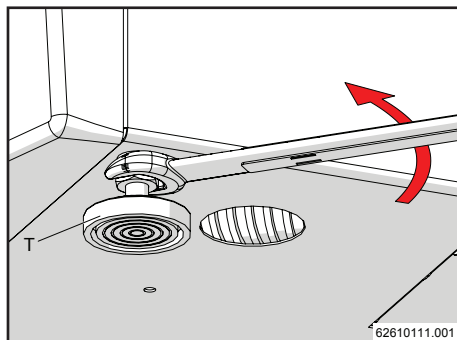
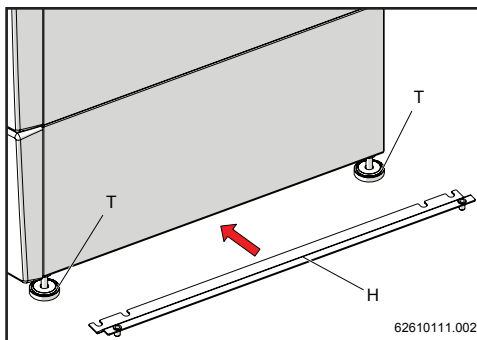

Figure 15-32
Figure 15-33
- 1.- Loosen, with the relevant spanner, the boiler's adjustable feet "T" (figure 15-32), insert rod "H" and retighten the adjustable feet "T" (figures 15-33 and 15-34). Repeat the same procedure on the opposite side.